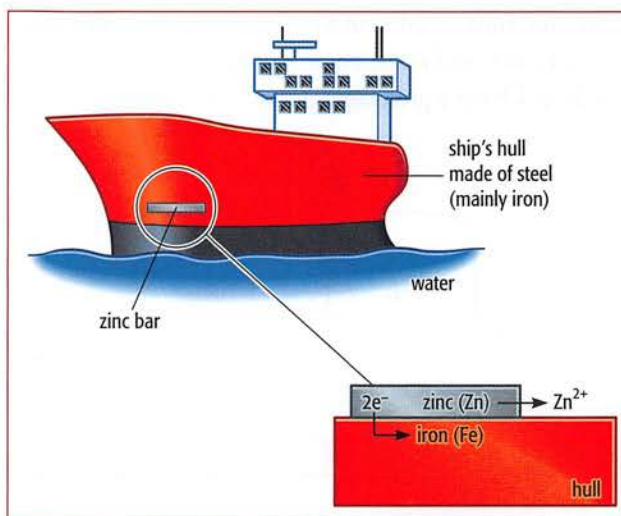

Figure 9.8 Blocks of zinc (or magnesium) are used for the sacrificial protection of the hulls of ships.
- ◆ **Sacrificial protection:** This is a method of rust prevention in which blocks of a reactive metal are attached to the iron surface. Zinc or magnesium blocks are attached to oil rigs and to the hulls of ships (Figure 9.8). These metals are more reactive than iron and will be corroded in preference to it. Underground gas and water pipes are connected by wire to blocks of magnesium to obtain the